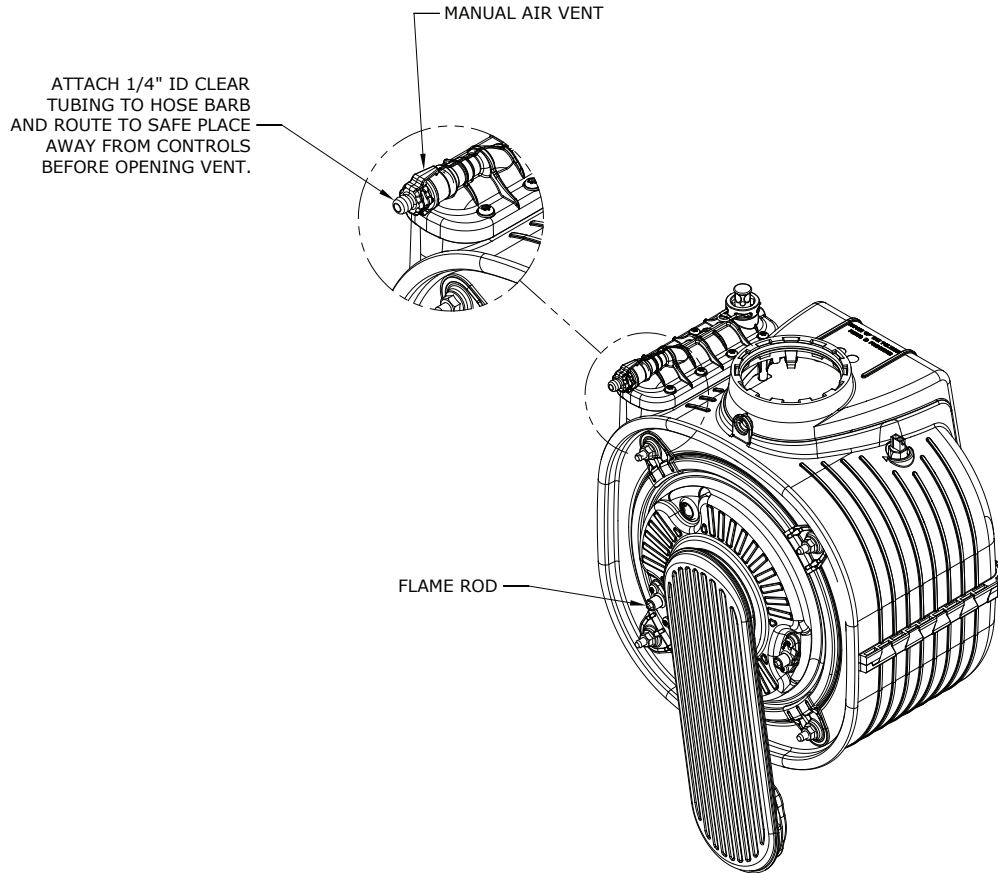

Figure 12.1: Location of Manual Air Vent
- 6) Bleed air from the heat exchanger using the manual air vent in the top left side of the heat exchanger (Figure 12.1). To do this install a piece of ¼" ID clear tubing over the hose barb and route the tubing to a location where water will not damage controls or nearby construction. Turn vent counter clockwise and allow heat exchanger to vent until a steady stream of water is observed. Close vent and remove hose.
- 17) Perform a check of the ignition safety shut-off device. With the burner firing, carefully unplug the orange flame rod wire at the flame rod using a pair of insulated pliers (Figure 12.1). The burner should shut off immediately.